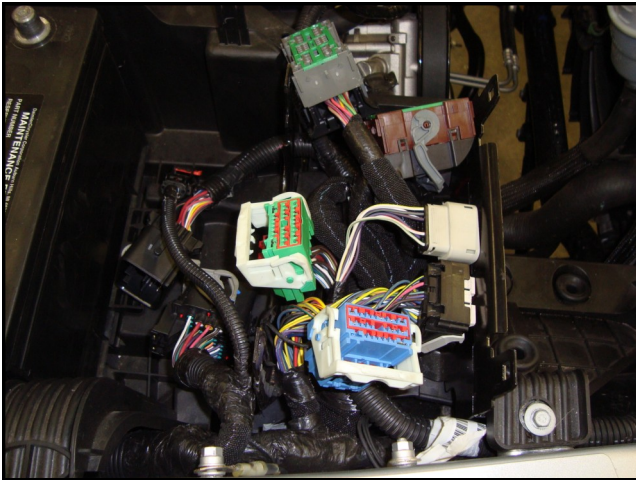

FIGURE 7
STEP 7: The OEM battery box will need to be cut to reuse the airbox & PCM mounting. Remove the Power Distribution/PCM mounting bracket and cut box per figure 7 & 8.